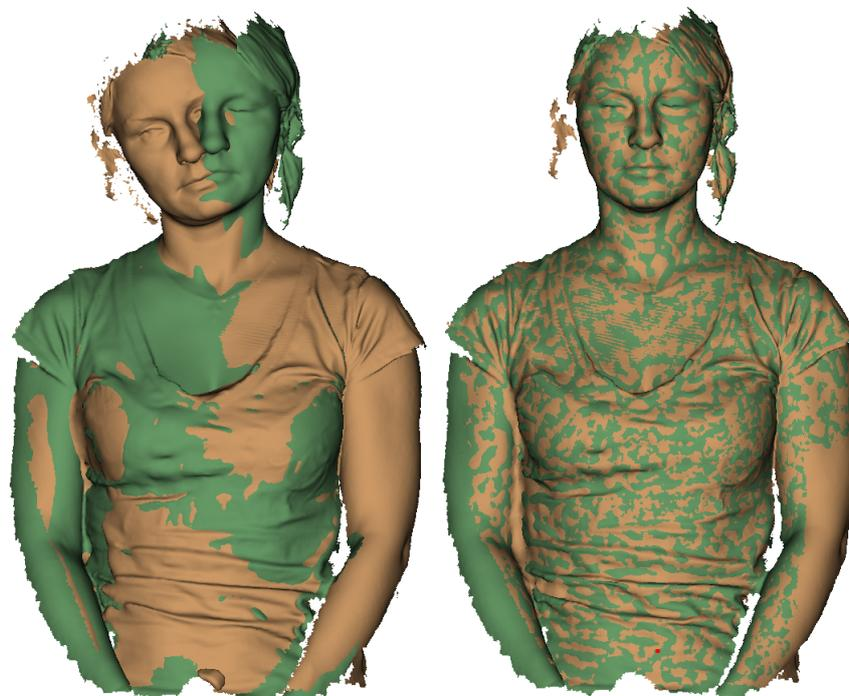

Figure 70: Two models after rigid (left) and nonrigid alignment (right).
Whereas rigid alignment can only perform such transformations as translation and rotation, the nonrigid algorithm can deform 3D data. This algorithm is intended to process so-called nonrigid objects: objects whose shapes have changed during the scan (e.g., models of animals or humans—see Figure 70, left). Keep in mind that the surface Artec Studio produces as a result of the deformation may differ from the surface of the actual object.
5. Click *Align...* The algorithm will align models by deforming one of the model (see Figure 70, right). If you are dissatisfied with the alignment results, click  and specify additional point pairs, or reposition the current pairs.